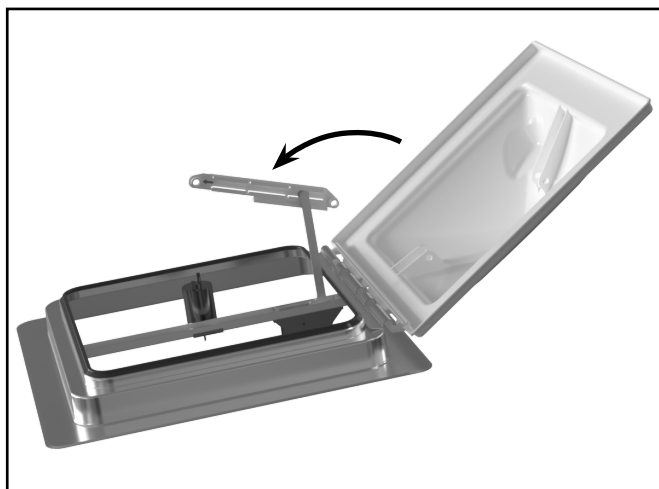

Figure 9
- c. Align the hinge on the lid with the hinge on the vent and rotate the lid towards the installed cross bar and install the universal cross bar into the lid. **(Figure 9)**